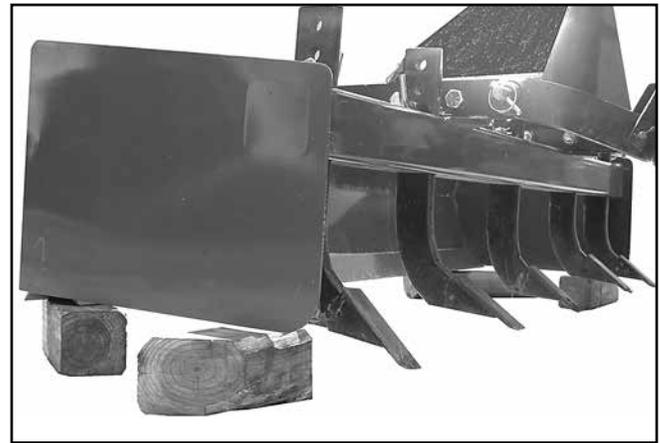

Figure 5. Box Scraper Blocked Up
1. Place two 6" x 6" (15 x 15 cm) blocks under each side frame of the box scraper as shown in Figure 5.
1. Block up machine by placing two 6" x 6" (15 x 15 cm) blocks under each side-frame of the box scraper (see Figure 5).
1. Place two 6" x 6" (15 x 15 cm) blocks under each side-frame of the box scraper (see Figure 5).